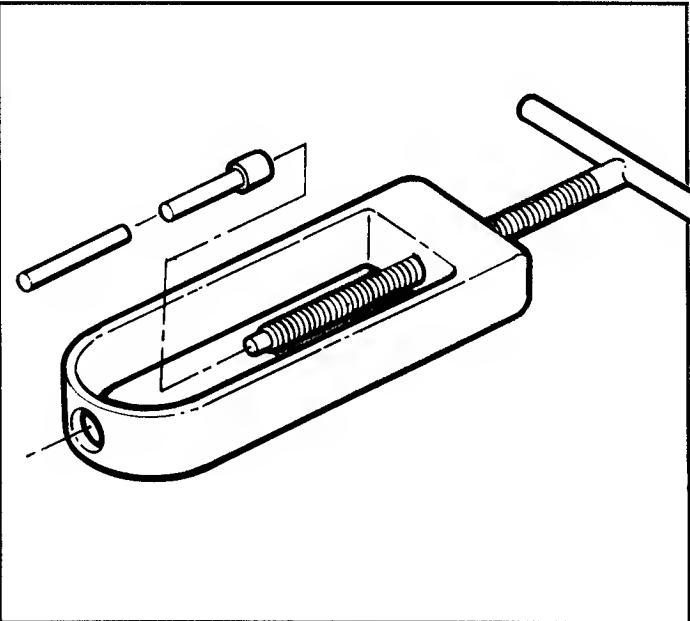

FIGURE 32
1. First remove piston rings, then the snap rings. The snap rings are located on both sides of the piston pin. Utilize piston pin driver, part number 42185, to extract the pin. Line up the driver in order to push the pin without binding. Place a rag under the piston when nearing completion, as the needle bearings may release from the cage. See Figure 32.